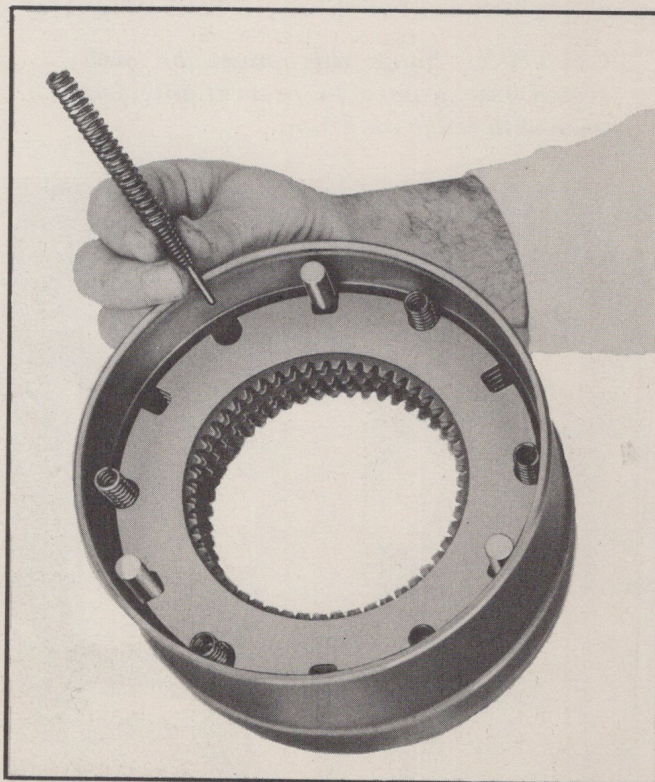

Fig. 247—Installing Clutch Release Springs and Guide Pins
3. Install six outer and six inner clutch release springs into the rounded cutouts in the steel clutch discs and into the holes in the drum. Install the six release spring guide pins (Fig. 247).